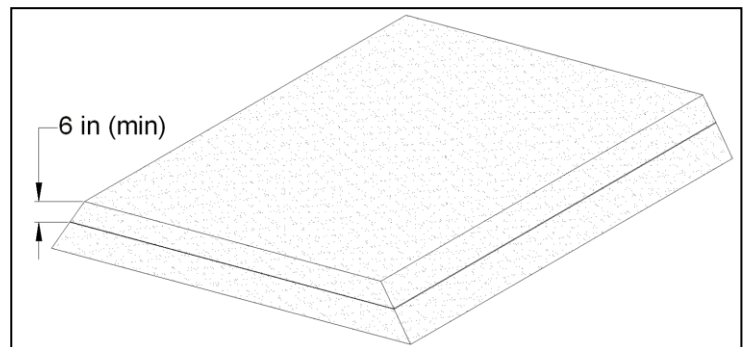

Figure 3
- Cohesive soils should be placed in lifts of 6 to 8 in (15 to 20 cm) and granular soils should be placed in lifts of 9 to 12 in (23 to 30 cm) compacted thickness. Each layer of compacted fill should be, at a minimum, 6 in (15 cm). (Figure 3)